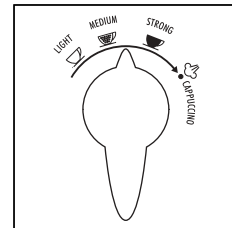

fig. 8
- 9 Position the strength selector according to the flavour of coffee desired, "light", "medium" or "strong" (fig.8).